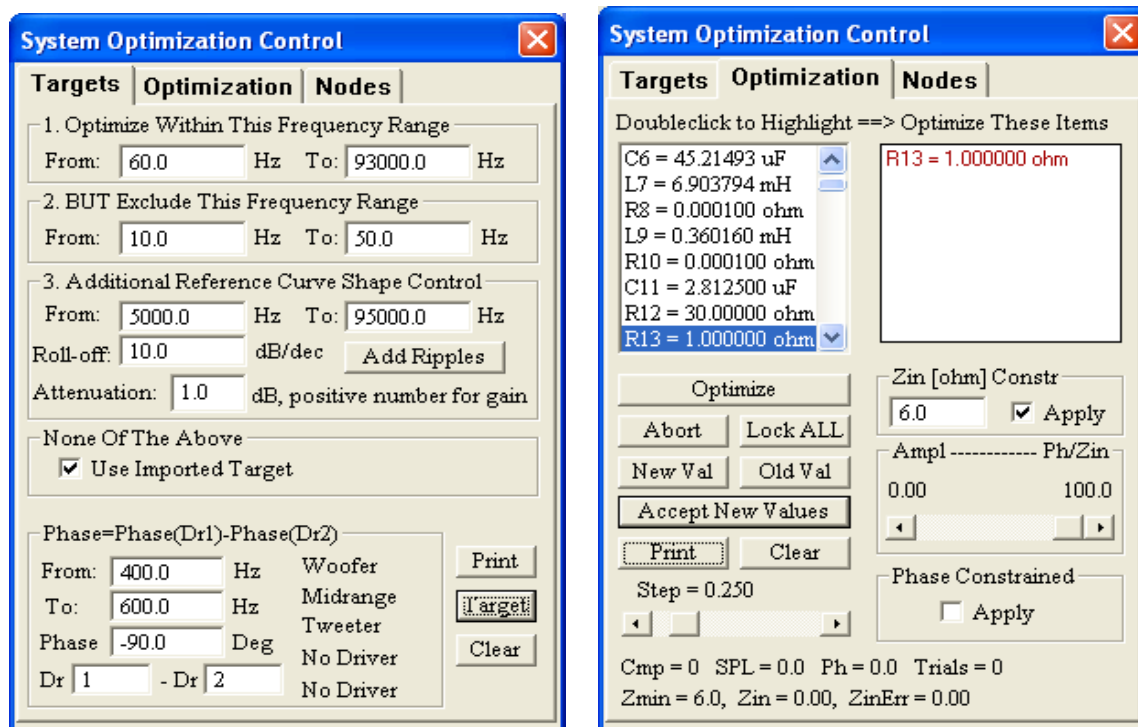
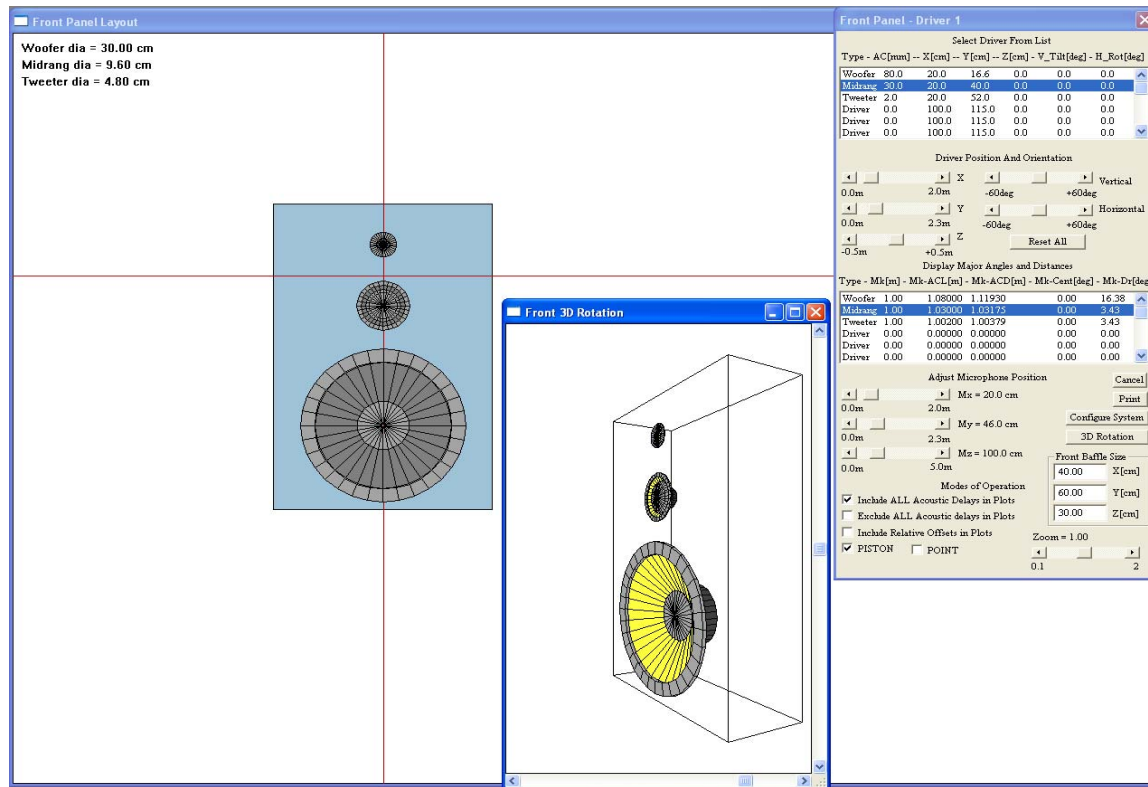

Figure 13.1. Optimization Control Dialogue Tabs
Figure 13.2 Test system set-up for optimization.
It is clear, that we are aiming at **system efficiency of 91.00 dB**. Additionally, only the midrange-tweeter crossover point will be optimized, however, you may apply the same principles to any other driver optimization. Finally, for the purpose of illustrating the optimization process, we are interested in **maximally flat frequency response above 1.5kHz**. Topology of our design is depicted on Figure 13.2. Here we have the tweeter driver mounted on the top (Y=100.0cm) followed by midrange driver (Y=130.0cm) and the woofer is mounted at the bottom of the baffle (Y=170.0cm). As you can see, this would be a typical arrangement for a 3-way loudspeaker system. **Where do you place the microphone ?** As we have decided to focus on optimization of the midrange-tweeter crossover section, therefore, we will place the test microphone right between those two drivers (Y=115.0cm). This will be confirmed by equal distances from both AC centers of drivers to the test microphone (1.04087m) and equal angles from both drivers to the test microphone (8.53deg) – see Figure 13.1. The selected microphone location is actually quite common location for the test microphone.
Right now, we have a situation, where the acoustic center of the midrange driver is further away from the test microphone by 28.0mm (30.0 – 2.0 = 28.0mm). We have two options to compensate for this: (1) introduce electronic delay – just as described in previous chapters, or (2) physically offset the tweeter by the 28.0mm to bring it “in-line” with the midrange acoustic center. In this example, we decided on the second option. **This final set-up is clearly depicted on Figure 13.2.**